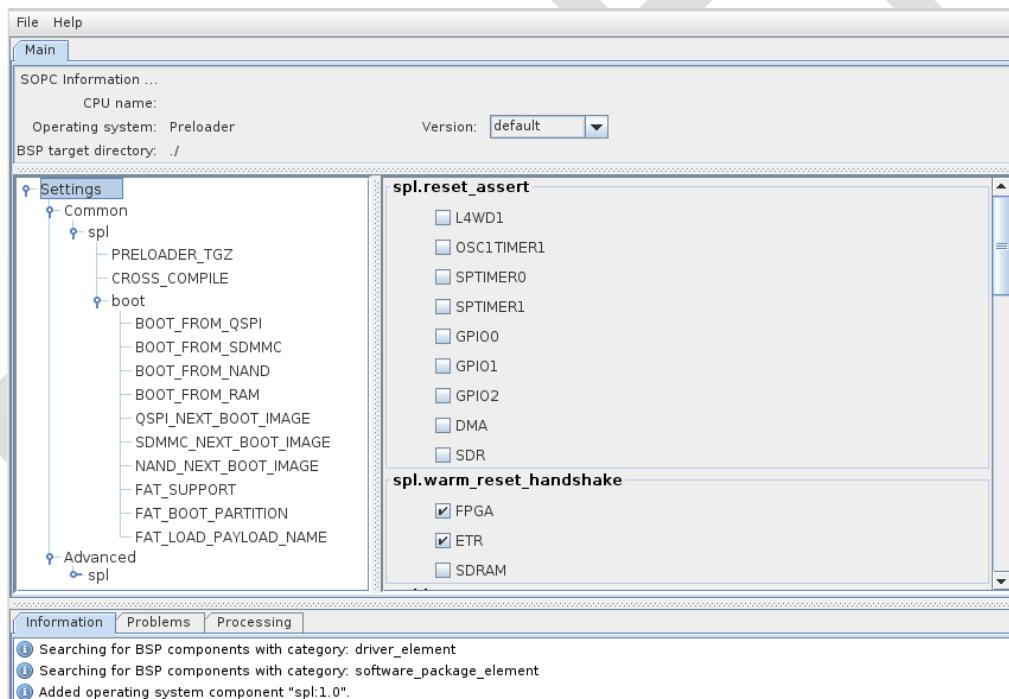

Figure 8-26. Preloader Settings Dialog
- c. Press the “OK” button. You should then arrive on a page with many settings, as shown on Figure 8-26. Take some time to read through them to see what the preloader has the ability to do.
4. On the main settings page of Figure 8-26, we will only need to modify 3 parameters for our design.